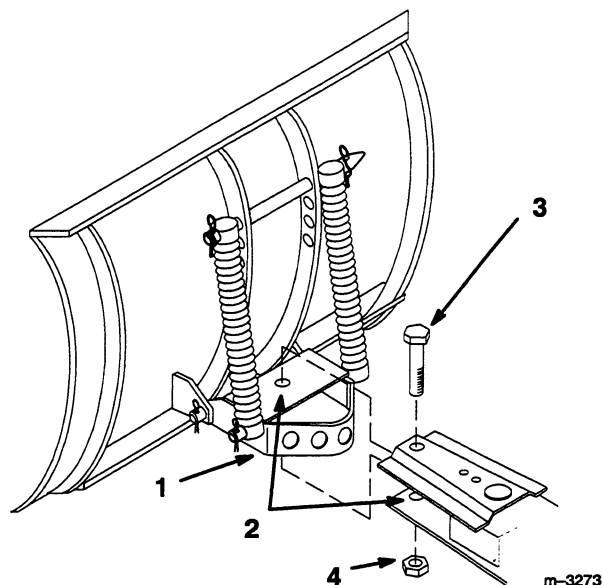

Figure 3
3. Apply general purpose grease to the pivot area of the frame and channel. Slide the channel between the frame mount and secure it with a 3/4-16 x 3-3/4" (95 mm) bolt, down from the top, and 3/4" locknut (Fig. 3).